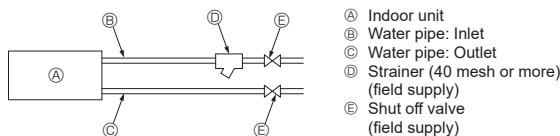

Fig. 4-5
11. Please refer to the [Fig. 4-5] when connecting the water supply.